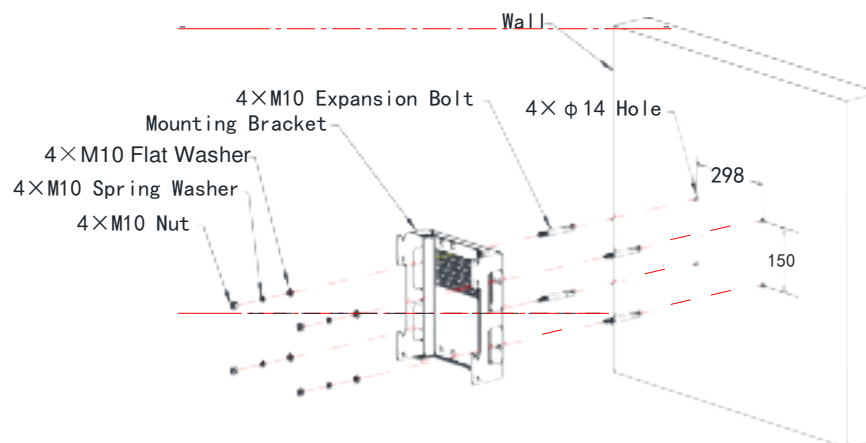

Figure 5 Mounting Bracket Installation Diagram
**Step2:** use hammer push 4 M10 expansion bolt into the hole of the wall, fix the mounting bracket (ADAS-S5100-5812) to the wall according the Figure 5.